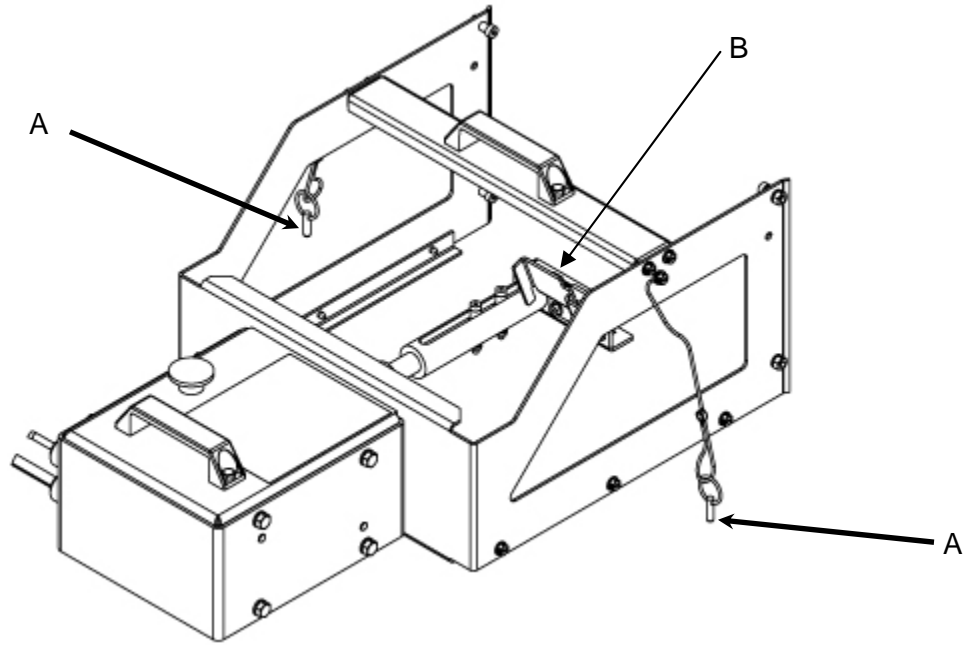

Fig. 2.2
1. Ensure the two Keeper Pins are removed from the Frame Retaining Holes. See Fig. 2.2, item A.
2. Ensure the Handle Retainer is in the disengaged position on the Sliding Coupling. See Fig. 2.2, item B.